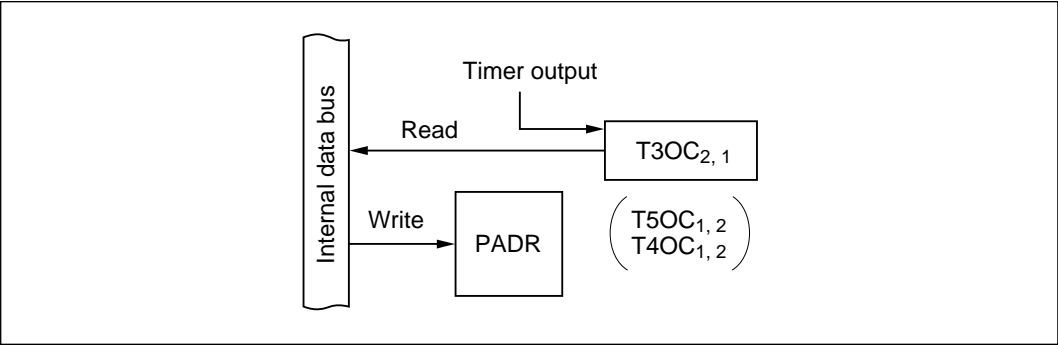

Figure 10-68 Output Compare Pins (Modes 1 to 7)
(6) Timer Output Pins (PA_6 , PA_5 , PA_3 to PA_0 : Modes 1 to 7): Figure 10-68 shows a block diagram illustrating the timer output function. Table 10-52 indicates register read/write data. When PA_6 , PA_5 , and PA_3 to PA_0 are used for T3OC_2 , T3OC_1 , T5OC_2 , T5OC_1 , T4OC_2 , and T4OC_1 output, values written in the port A data register (PADR) have no effect on the timer output. PADR can be read to monitor the timer output level (T3OC_2 , T3OC_1 , T5OC_2 , T5OC_1 , T4OC_2 , T4OC_1).